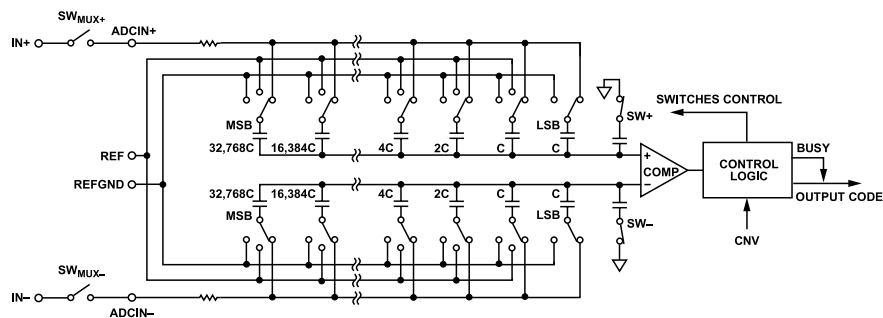
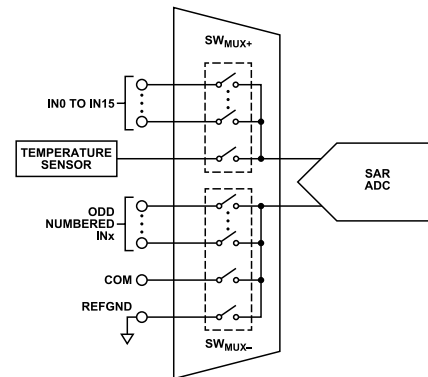
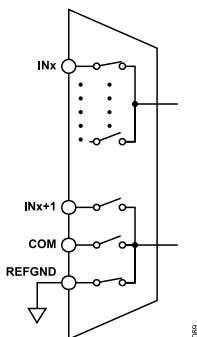

Figure 63. ADC Simplified Schematic
Figure 67. Multiplexer Simplified Schematic
Figure 68. INx Paired with REFGND
The AD4695/AD4696 contain an SAR-based ADC core that utilizes a charge redistribution digital-to-analog-converter (DAC) to quantize the applied input voltage to an output code. Figure 63 shows a simplified schematic of the AD4695/AD4696 SAR ADC core.
The analog inputs and the temperature sensor are connected to the capacitor array inputs (ADCIN+ and ADCIN-) via the internal low crosstalk multiplexer, represented by SWMUX+ and SWMUX- in Figure 63. The multiplexer switches are controlled by the internal channel sequencing logic and are updated once per conversion (see the Multiplexer section and the Channel Sequencing Modes section).
A low crosstalk analog multiplexer routes the signals from the analog input pins to the ADC core inputs. The impedance of the analog inputs is modeled as the parallel combination of the pin capacitance ( $C_{PIN}$ ) and the network formed by the series connection of  $R_{IN}$  and  $C_{DAC}$ .  $R_{IN}$  represents the ADC input series resistance and the multiplexer switch resistance and is typically 240  $\Omega$ .  $C_{DAC}$  represents the ADC sampling capacitive DAC shown in Figure 63, and is typically 60 pF.
The AD4695/AD4696 contain a flexible, low crosstalk analog multiplexer for selecting from the 16 analog inputs and internal temperature sensor and routing them to the inputs of the 16-bit, pseudo differential SAR ADC core. Figure 67 shows a simplified schematic of the internal multiplexer. The  $SW_{MUX+}$  and  $SW_{MUX-}$  switches shown in Figure 63 and Figure 67 represent the multiplexer switches that route the selected channel to the ADC inputs (labeled  $ADCIN+$  and  $ADCIN-$  in Figure 63).  $SW_{MUX+}$  and  $SW_{MUX-}$  are break-before-make and are controlled by the internal channel sequencing logic (see the Channel Sequencing Modes section).
The multiplexer allows flexible analog input channel configuration. The  $SW_{MUX-}$  position is user programmable, and can be assigned to any of the pins shown in Figure 67 (see the Channel Configuration Options section).
The channel configuration settings include pin pairing assignments and signal polarity modes. The pin pairing options assign the position of  $SW_{MUX-}$  for each position of  $SW_{MUX+}$  and determine which signal is routed to the negative side of the SAR ADC core ( $ADCIN-$  in Figure 63). The signal polarity modes configure the  $ADCIN-$  voltage range. Figure 68 shows the pin pairing and voltage ranges for the different channel configuration options.
- ▶ Figure 68, IN0 to IN15 paired with REFGND
When the temperature sensor is selected, the multiplexer  $\text{SW}_{\text{MUX}+}$  switch (see Figure 67) selects the temperature sensor output and its  $\text{SW}_{\text{MUX}-}$  switch selects REF\_GND, and the SAR ADC core samples  $V_{TEMP}$  to generate a corresponding output code. The analog-to-digital conversion of the temperature sensor output utilizes the same transfer function as an analog input configured in unipolar mode with  $\text{OSR} = 1$  (see the Transfer Function section).